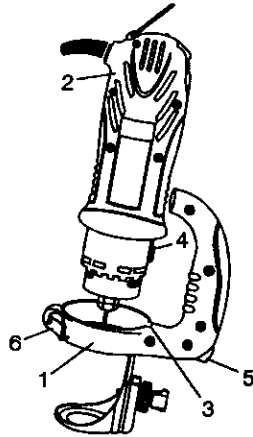

Fig. 10
- 1 Slide precision handle mounting bracket (1) onto the bottom of motor housing (2) until the slot under the handle (3) lines up with the shaft locking button (4) in the motor housing (see Fig. 10).